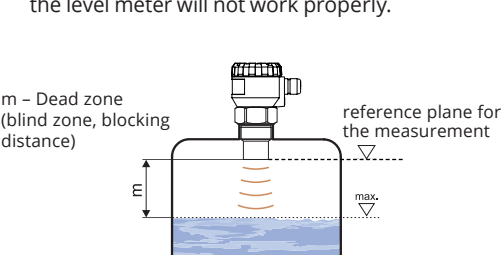

Fig. 2: Level meter dead zone
- The reference plane for the measurement is the lower edge of the transducer (Fig.2). In connection with the measurement principle, no signals **reflected** in the area immediately under the level meter can be evaluated. **The zone** (Fig. 2) determines the